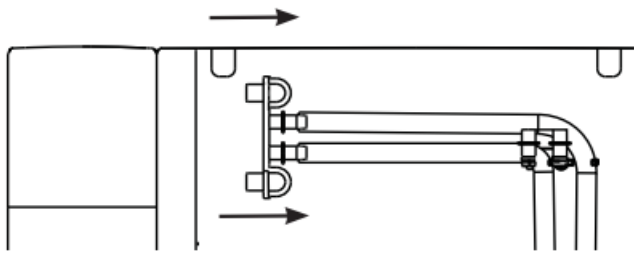

Figure 11
16. Replace drain tubes on back. See figure 11.